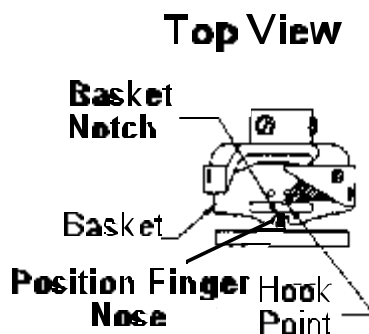

Figure 4
22. **Rotate** Hook Assembly until Basket Notch is aligned with Position Finger Nose. See Figure 4.